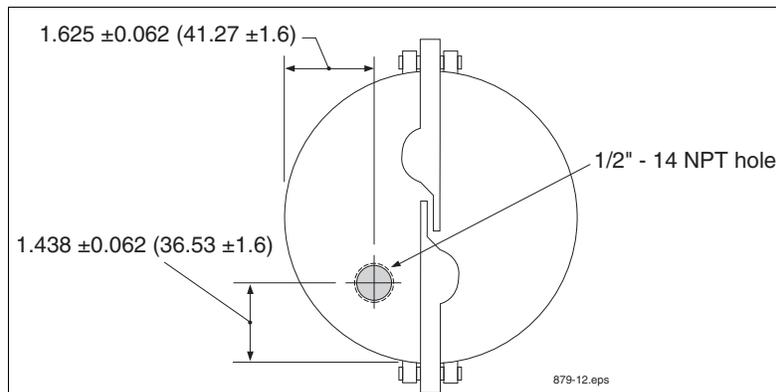

Figure 6. Modifying An Existing Metal Riser Cap
2. Drill and tap the cap for a 1/2"-14 NPT cord grip thread [Figure 6].